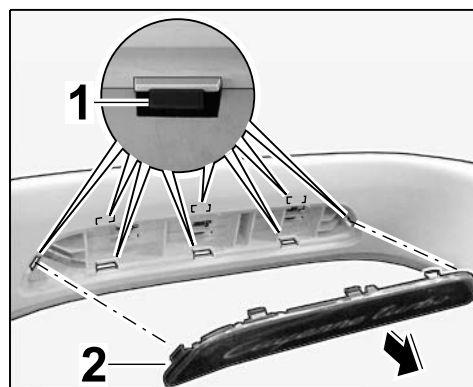

Figure 3
2.1.1 Release locking lug $\Rightarrow$ Figure 3 -1-.
2.1.2 Press out door entry guard $\Rightarrow$ Figure 3 -2- ($\Rightarrow$ Figure 3 -arrow-).